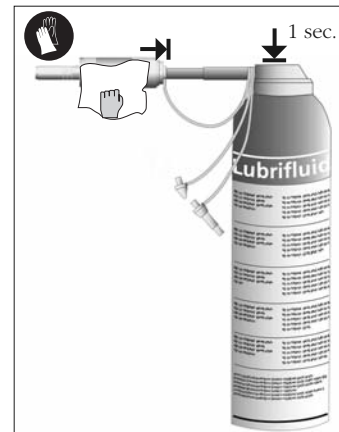

fig. 5
- Insert the nozzle into the back of the instrument sleeve. Spray for about 1 second **fig. 5**.